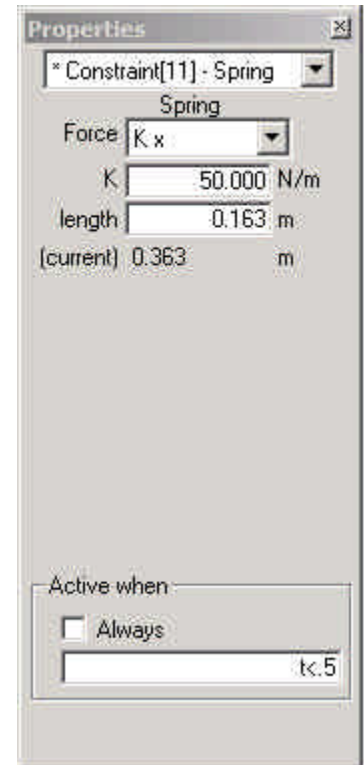

Figure 24. Step 7, spring properties.
7. Modify the free-length of the spring by selecting opening the spring’s properties menu. This will place the spring in a deflected initial position that will apply a force to the system. $F=kx$. Figure 24. The “Active when” setting can also be modified to allow the spring to only act on the system if some condition (such as $t < .5$) exists.